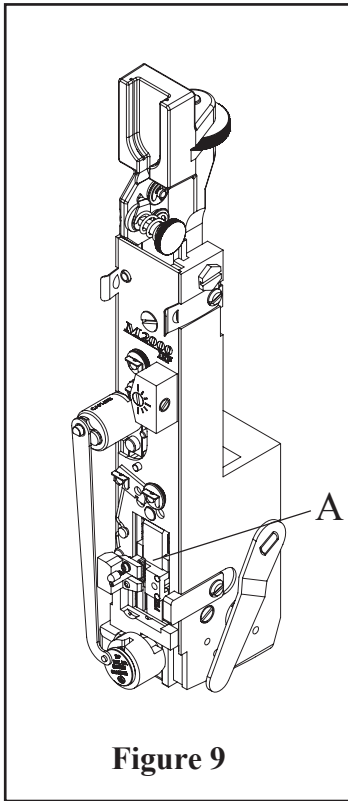

Figure 9
**MAKE ALL ADJUSTMENTS WITH THE POWER OFF AND THE STITCHING HEAD IN NEUTRAL POSITION!** (Fig. 9)